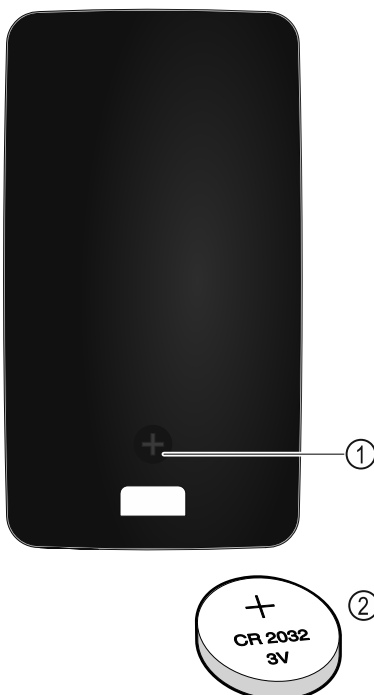

Fig. 151
The remote control is powered by a 3V CR 2032 battery Fig. 151 (2) available from specialist retailers.
- ▶ Undo screw Fig. 151 (1) on the back of the remote control.